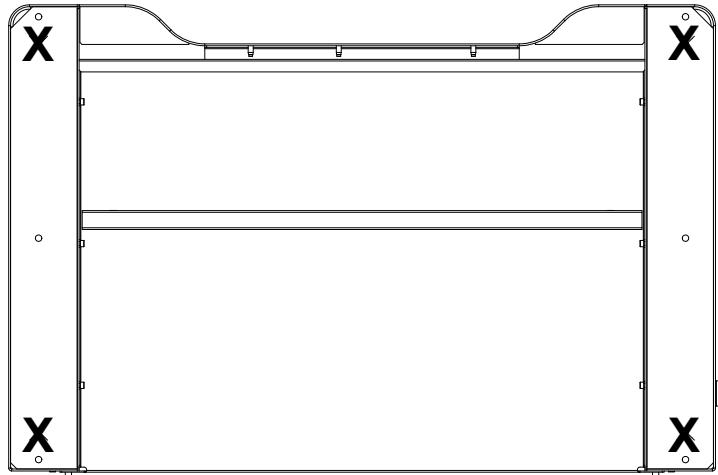

Figure 19. Underside of frame showing location of frame feet
6. Locate any frame feet that may have been removed in order to bolt the frame to the skid and reinstall them in the locations shown in Figure 19 on page 71.